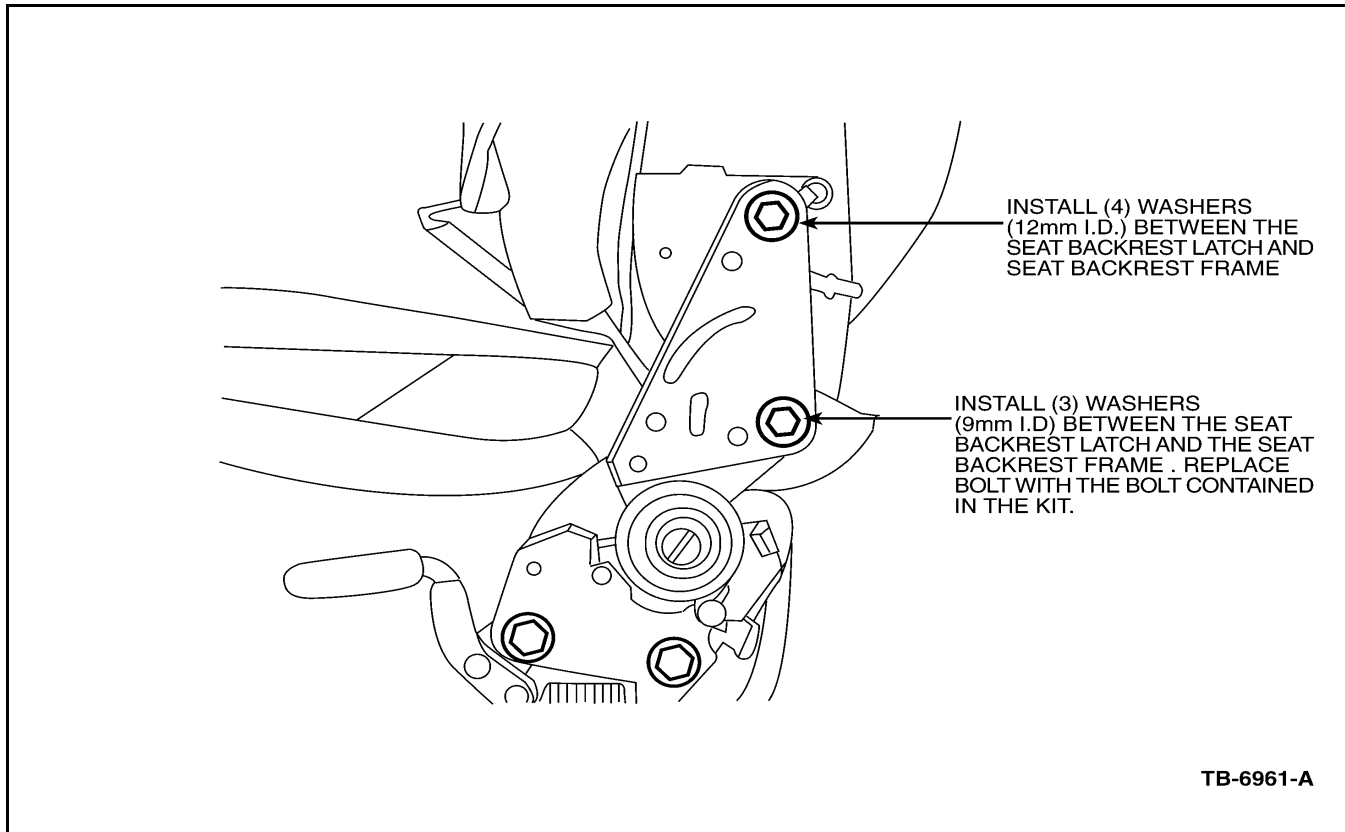

Figure 1 - Article 03-1-5
2. Remove the front passenger seat backrest and latch per Workshop Manual procedure listed in Section 501-10. Only remove the top two bolts of latch (Figure 1). Discard lower bolt.
5. Install other four (4) of the 1.5mm-thick washers between the seat backrest latch and the seat backrest frame at the upper bolt location (Figure 1).
6. Install the three (3) 2mm thick washers (smaller I.D.) between the seat backrest latch and the seat backrest frame at the lower bolt location (Figure 1).